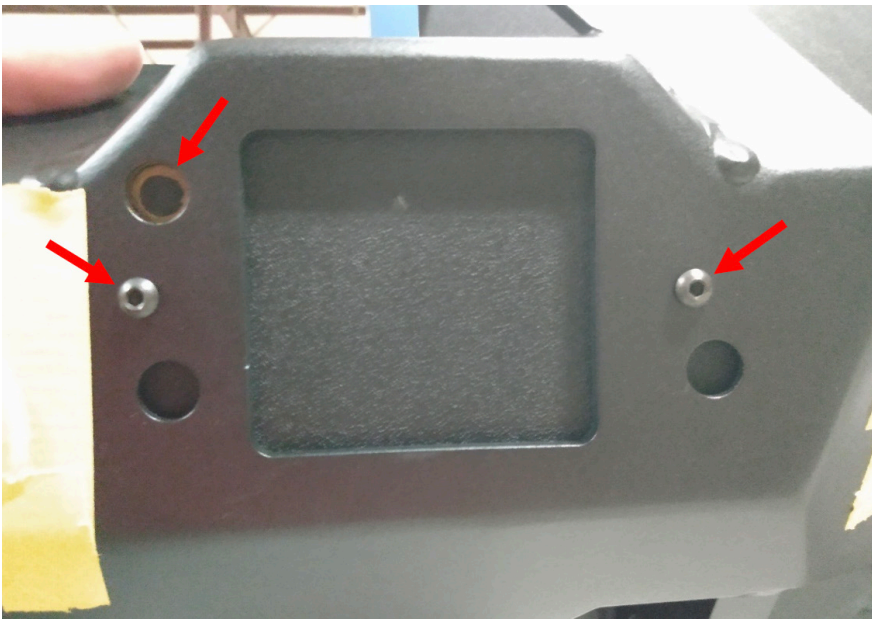

Figure 15
14. Hold the cut ACC filler panel inside the bumper and align the two (2) drilled holes with the corresponding holes in the bumper. Using a marker, trace the upper hole cutout in the bumper. Figure 15